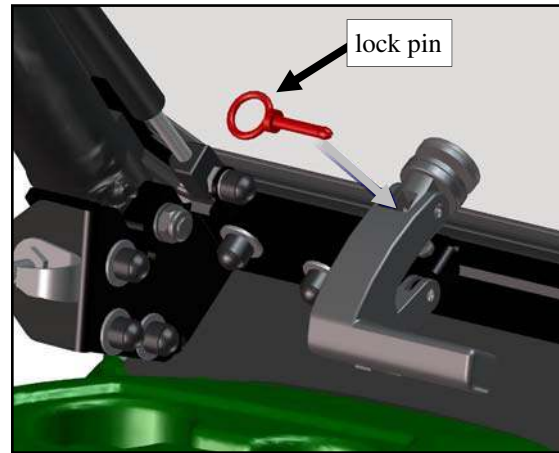
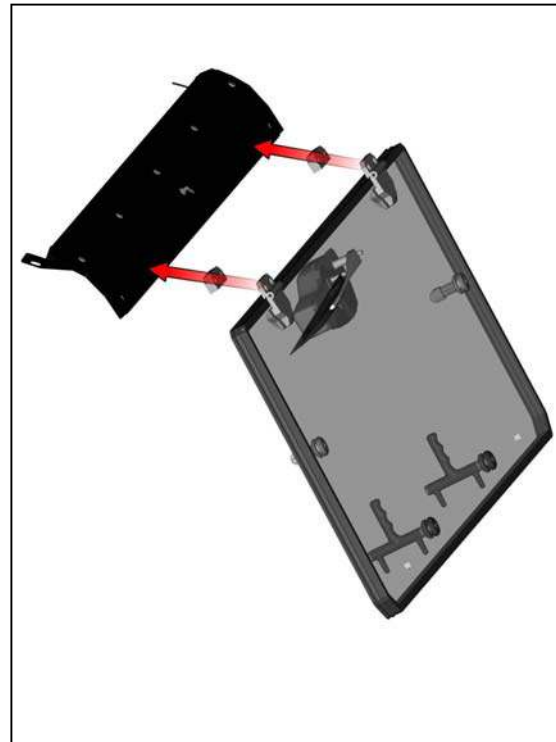

Fig. 3.5a
Fig. 3.5b
3.5 NOTE: (manufacturing variances): your windshield set up (the lower portion) may come with the plastic cowl latches shown in fig. 3.5a or they may come with the metal version shown in fig. 3.5b (which mounts to the windshield instead of the cowl). Proceed accordingly.